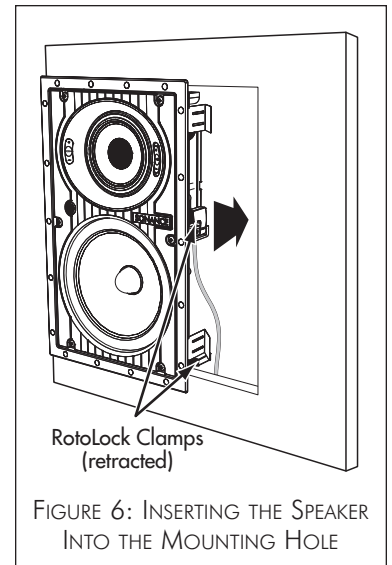

FIGURE 6: INSERTING THE SPEAKER
4. Make sure all the RotoLock clamps are retracted so that they are tucked within the mounting hole's border. Insert the speaker into the hole in the wall (*Figure 6*). The RotoLock system can accommodate a maximum wall material thickness of 1 1/4".